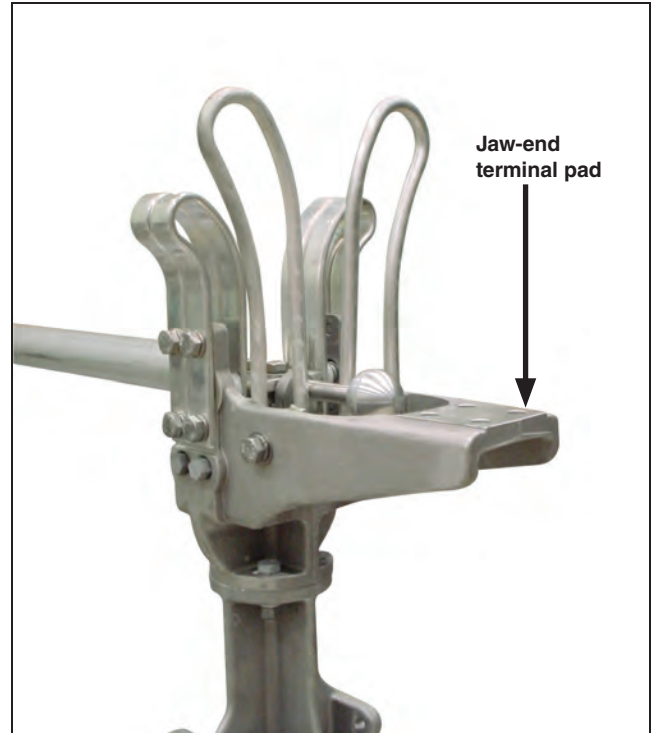

Figure 78. Prepare the jaw-end terminal pad.
- (b) Immediately apply a liberal coating of Burndy Penetrox A or other suitable aluminum connector compound to the clean surface. See Figure 78.